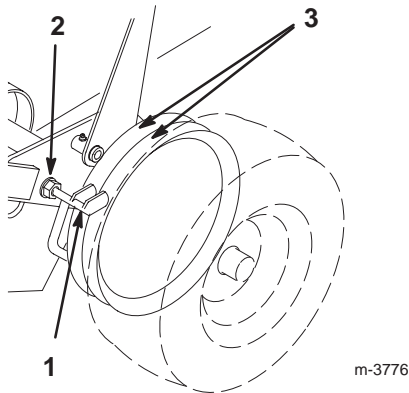

Figure 52
1. Loosen the locknut that holds the scraper to the engine frame (Fig. 52).
2. Rotate the scraper until it aligns with the center of the pulley grooves (Fig. 52).
3. Tighten the locknut (Fig. 52).